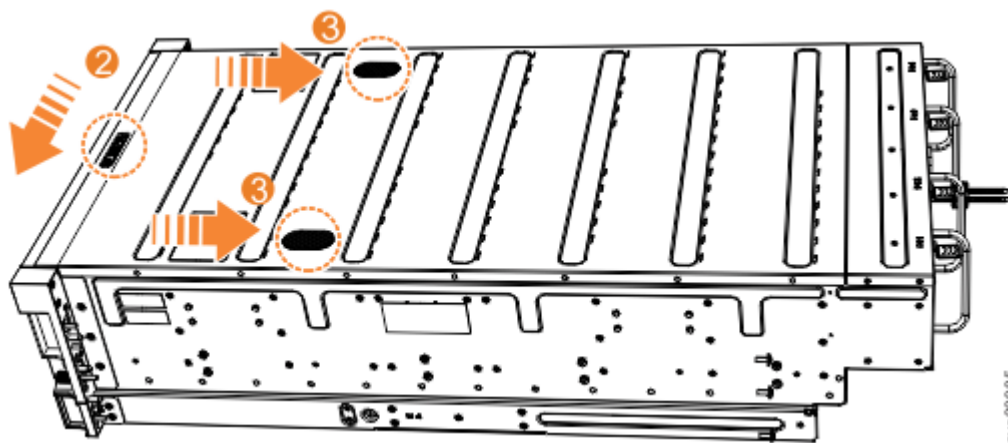

Figure 68. Replacing the 2076-92F top cover
2. Push the cover release lever to the side (2) as shown in Figure 68 on page 62.
3. Slide the cover towards the back of the enclosure (3) back until it stops, as shown in Figure 68 on page 62.